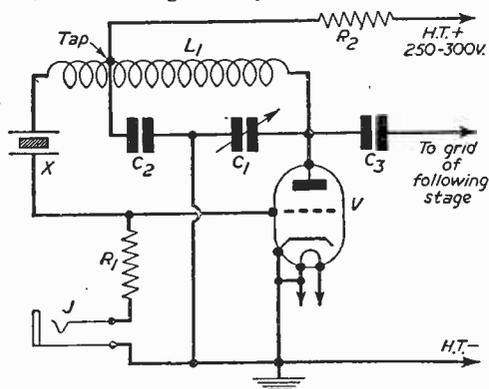

Fig. 2.—Squier crystal oscillator circuit.
Special circuits have recently been devised for the direct production of harmonics from normal crystals and are becoming popular as the crystals are more robust, cheaper and more readily obtainable. Large numbers have been available from Government-surplus dealers in frequencies suitable for amateur use. The Squier circuit is shown in Fig. 2, and makes use of controlled regeneration to facilitate crystal oscillation. A feed-back coil is formed by tapping the earth point on L1 and the crystal is series resonant in the grid circuit. The circuit L1, C1 is tuned to the crystal harmonic, causing the crystal to "take off" on that frequency, and the tapping point is adjusted so that there is insufficient regeneration for the circuit to oscillate independently of the crystal via the crystal electrode capacity. One triode section of a 6J6 or 12AT7 is usually recommended for use in this circuit, and the values of components
given in Fig. 2 apply to that type of valve and for operation on 24 Mc/s from an 8 Mc/s crystal. The frequency can then be multiplied into the 144 Mc/s band, the second half of the 6J6 or 12AT7 generally being used for doubling or trebling.
**COMPONENTS (Fig. 2).**